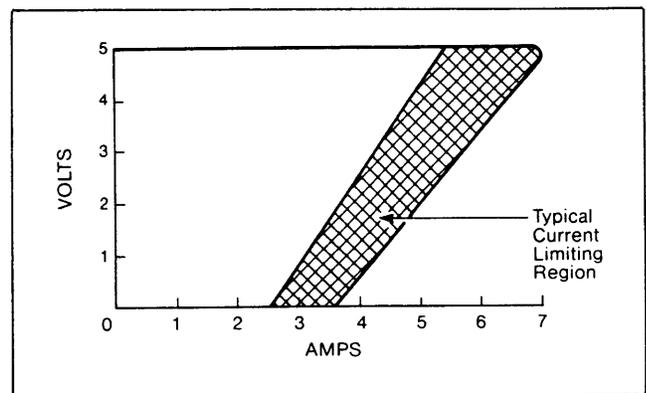

Fig. 4. Typical load regulation and foldback current limiting characteristic of 5-volt supply.
4. Overload current limiting begins at about 7 amps (less at high temperatures) and gives protection against excessive overload and short circuited output. The foldback characteristic shown in the graph in Fig. 4 takes effect before the protective fuse blows, dropping the output current in proportion to the degree of overload. If the output is short-circuited (maximum overload condition), the output voltage approaches zero and the current is limited at approximately 2.5 amps. Monitoring of the output voltage and current will detect any such overload condition. If the voltage is low, check the current. If the combination of voltage and current falls approximately within the "current limiting region" of the graph in Fig. 4, the power supply is overloaded.